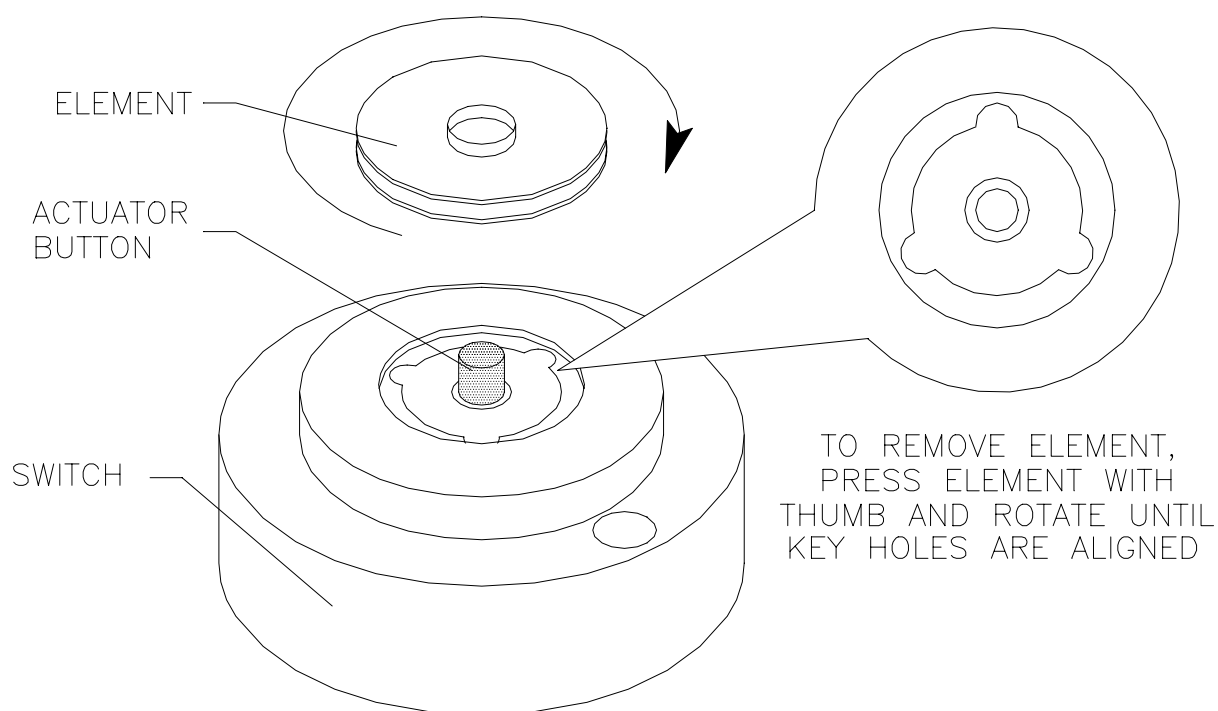

Figure 3-6 Heat Sensor Element Removal/Replacement
1. Press on the center of the element and rotate it slightly in a clockwise direction to remove it from the switch. When the key holes are properly aligned, the element can be removed (see Figure 3-6).